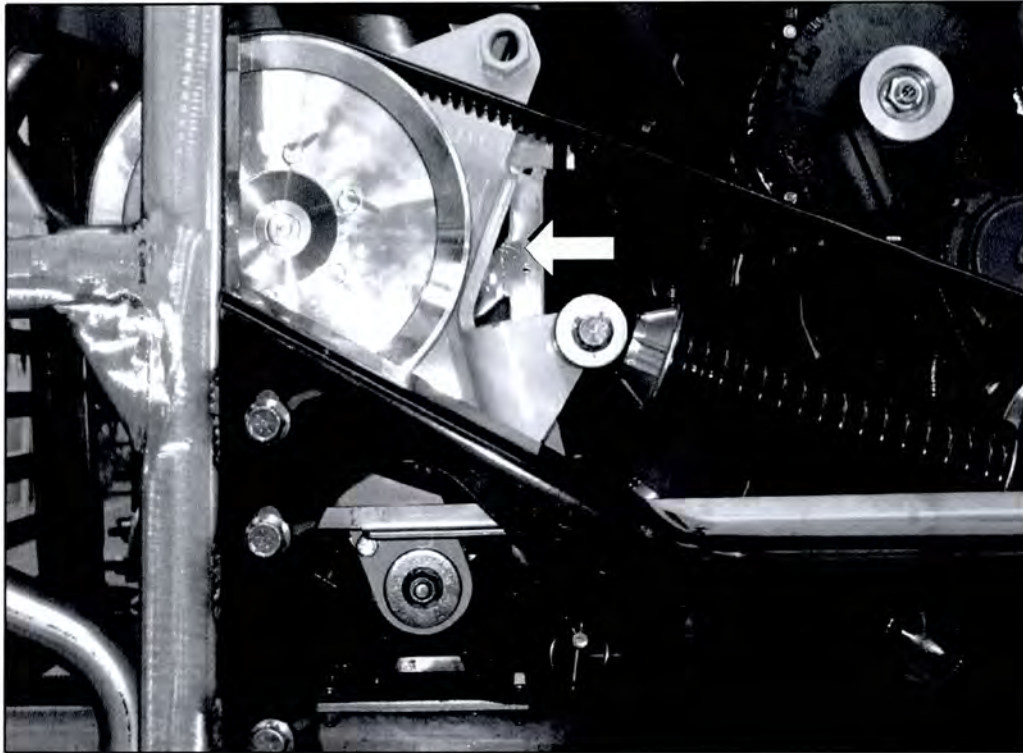

Figure 1.
4. Locate the fan clutch, on the roadside section of the engine compartment (refer to Figure 1).